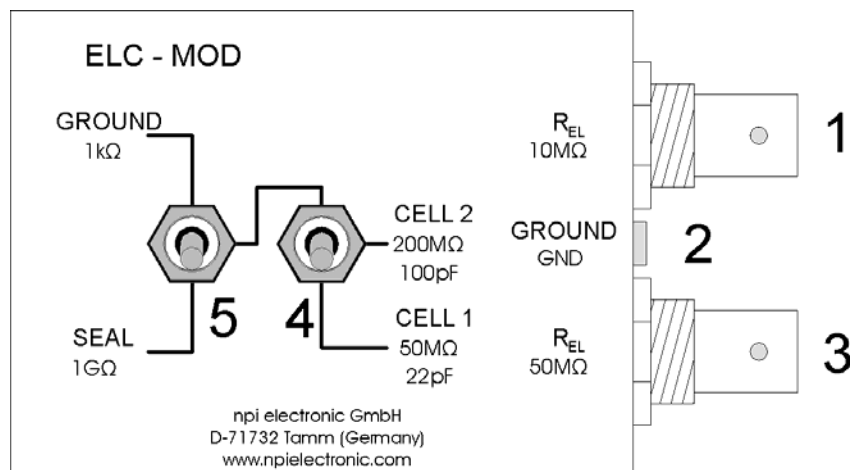

Figure 7: passive cell model
- ☐ Set switch #4, Figure 7 to the upper position.
- ☐ Set switch #5, Figure 7 to GROUND position. The 1 k $\Omega$  resistor simulates the resistance of the bath solution. This can be used to train cancellation of offsets, using the bridge balance and using the capacity compensation.
- ☐ Set switch #5, Figure 7 to SEAL position. The 1 G $\Omega$  resistor simulates the SEAL resistance when forming a GIGASEAL in patch clamp experiments.
Intracellular recordings can be mimicked with one of two cells with different properties. Use the 50 M $\Omega$  electrode connector (#1, Figure 7) for an experiment with sharp electrodes or the 10 M $\Omega$  electrode connector (#3, Figure 7) for simulating an experiment with patch electrodes.
- ☐ Switch the CELL membrane switch (see #4, Figure 7) to the desired position (CELL 1 or CELL 2).
- ☐ Connect the MICROELECTRODE connector of the headstage to ground. If parasitic oscillations occur use a 10 k $\Omega$  resistor for grounding. If you use a cell model set #3 in Figure 7 to GROUND.